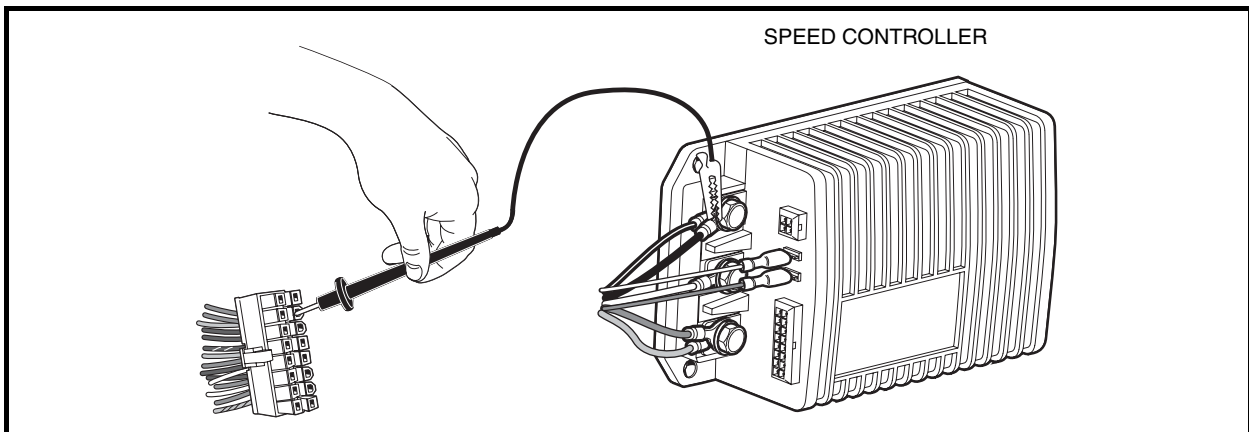

Figure 11-15 Pin 7 Test
4. Place a jumper wire with an alligator clip between the B– terminal of the speed controller (use alligator clip for this connection) and pin 7 (orange/white wire) of the 16-pin connector (**Figure 11-15, Page 11-27**). **See following CAUTION.**